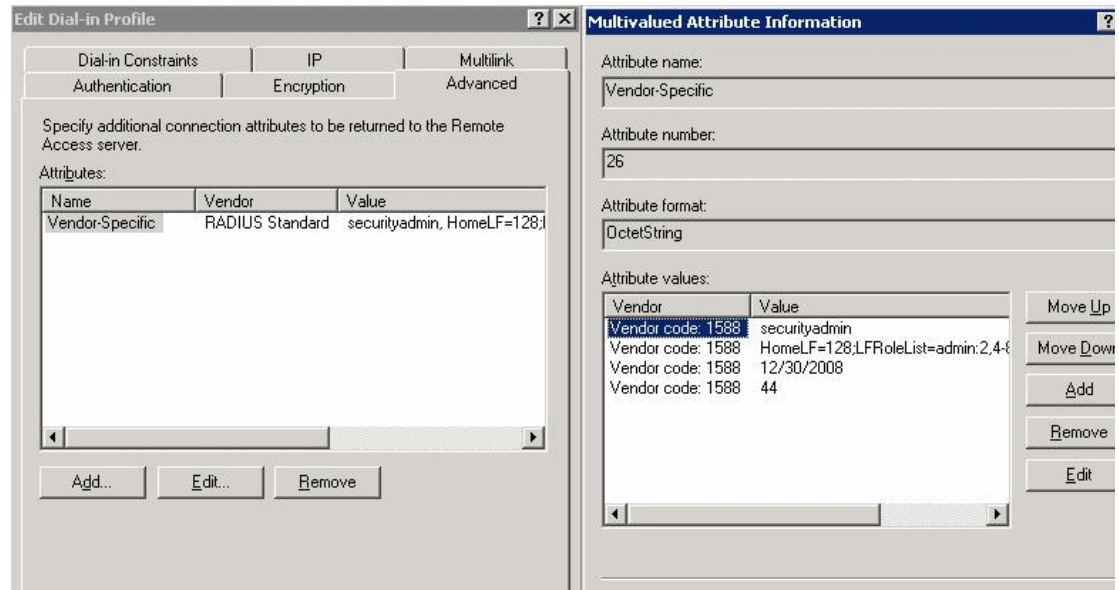

FIGURE 10 Windows 2000 VSA configuration
To configure a Windows 2000 internet authentication service (IAS) server to use VSA to pass the Admin role to the switch in the dial-in profile, the configuration specifies the Vendor code (1588), Vendor-assigned attribute number (1), and attribute value (admin), as shown in Figure 10.